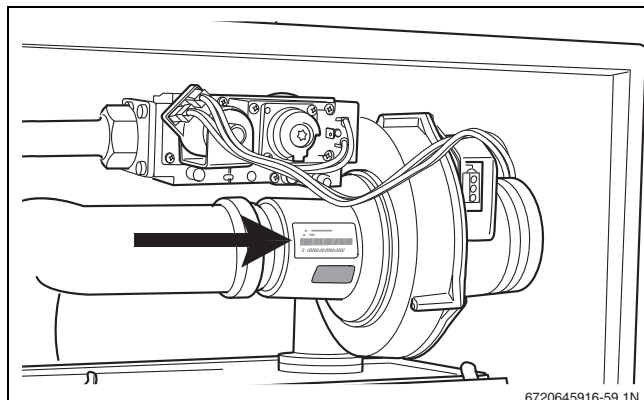

Fig. 62 Checking the gas classification label
- ▶ Check that the actual gas supply is in accordance with the type of gas supply specified on the gas classification label (→ fig. 62).